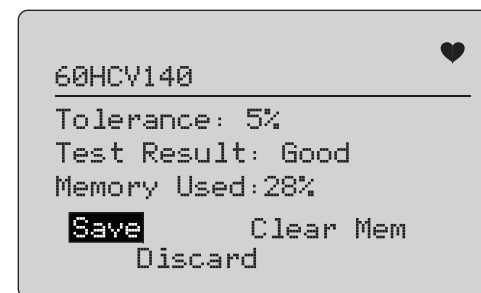

Figure 59. Test Results
7. Push  to start the test. See Figure 59.